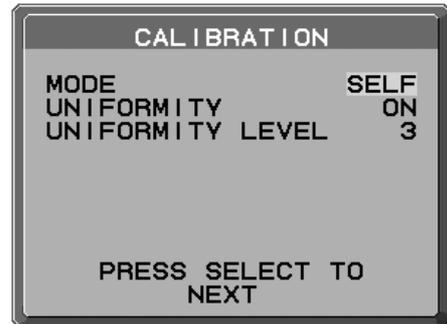

Figure 3
2. Select SELF in the Mode selection (**Figure 3**).